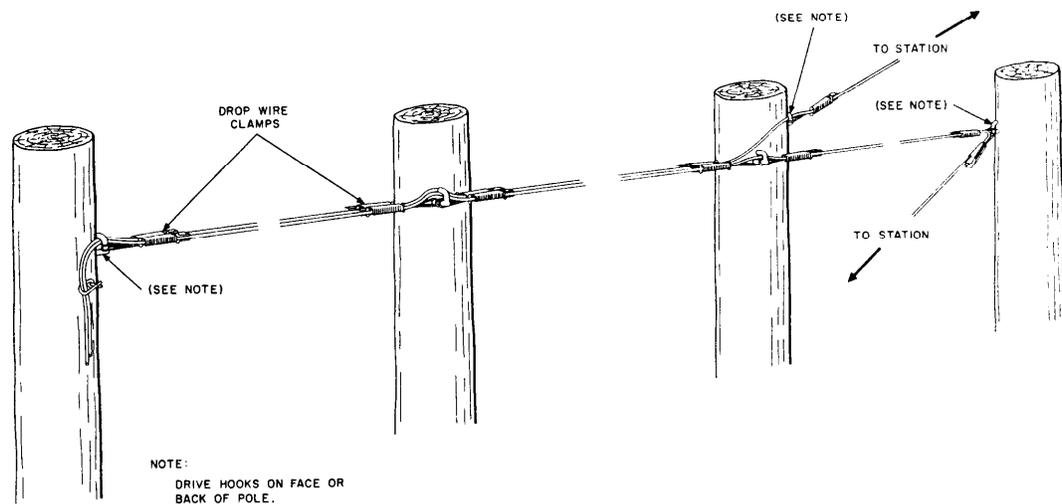

Fig. 6 - Drop Wire Run Along Lead Without Cable
3.07 Run drop wires as illustrated in Fig. 6.